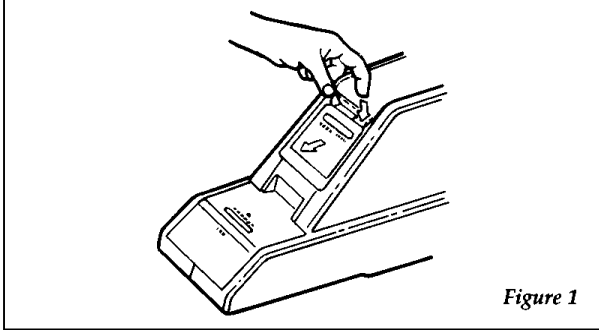

Figure 1
2. Open door by moving hand towards front of vehicle while maintaining pressure on latch (Figure 1).